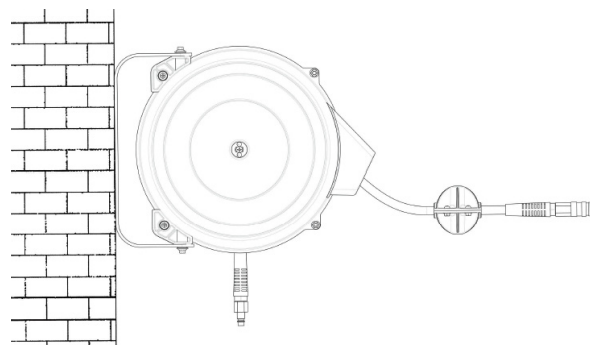

Fig. 5: Assembly
Step 4: Position the holes on the air hose reel housing in line with the hole in the bracket. Insert the screws with the appropriate diameter into the holes in the bracket and in the reel housing (Fig. 5).